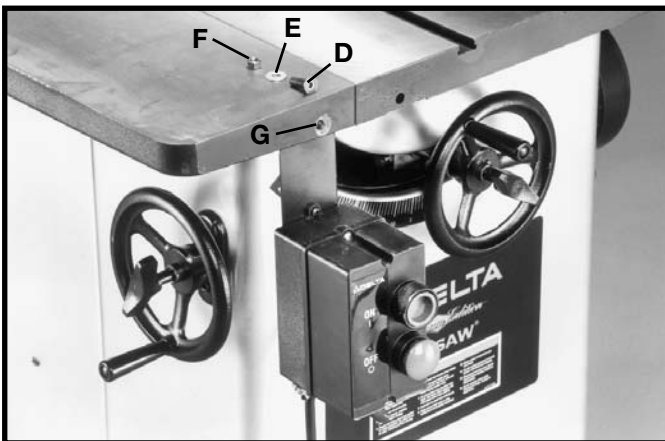

Fig. 7
3. Loosely assemble switch and switch bracket (A) Fig. 7, to the inside front lip of extension table with hex flat head screw (D), flat washer (E), and hex nut (F) through hole (G).